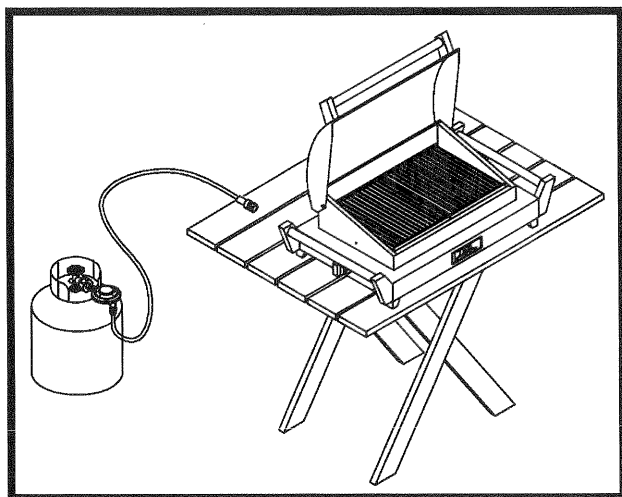

Figure 5 LP Gas Tank Placement
WARNING: A MINIMUM OF 12 INCHES OF CLEARANCE MUST BE MAINTAINED ON ALL SIDES OF THE UNIT TO THE LP GAS SUPPLY TANK WHEN USING THE REGULATOR WITH HOSE ASSEMBLY. KEEP THE FUEL SUPPLY HOSE AWAY FROM HEATED SURFACES. THE LP GAS SUPPLY TANK MUST BE LOCATED IN A SAFE POSITION TO PREVENT TIPPING. (See Figures 5 and 6)
4. When using the grill as a Portable or Tabletop model, place the **LP Gas Tank** in a safe and upright position maintaining 12 inches of clearance on all sides and locating the tank and hose in a position to prevent tipping. (See Figure 5) When using the grill with the optional base attached, place the tank in the space provided in the base and secure the tank with the tank strap latch assembly.